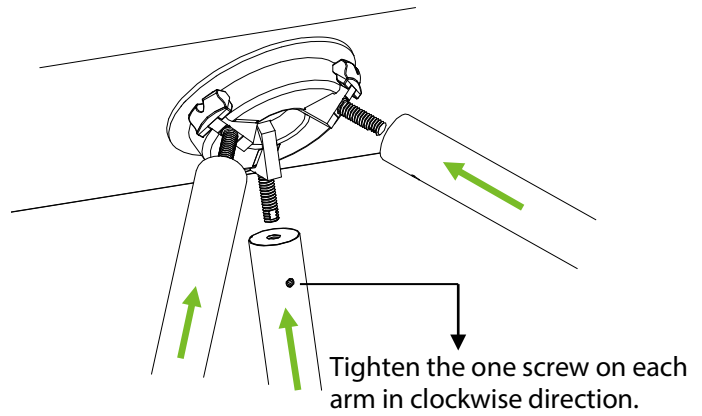

Figure 2-2
- Rotating the arms to the connection points until it was fastening, and then use the Hex key to fasten the one screw on each arm, as shown in Figure 2-2.